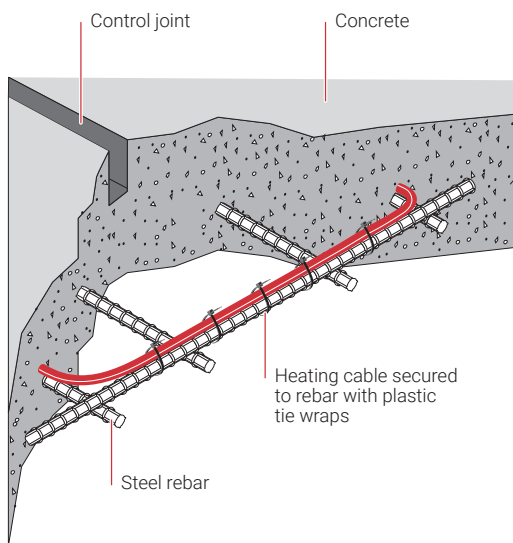

Figure 16: Method of crossing control joints
4. Lay out the heating cable in a serpentine pattern, at the predetermined spacing as specified in the design requirements, to uniformly cover the area to be heated (see Section 2.10). For single pour installations, fasten the cable to the reinforcement (or metal lath) with plastic tie wraps at 30 in (76 cm) intervals. For two-pour installations, use the tabs on the prepunched strapping to secure the cable at the predetermined spacing. Stay at least 4 in (10 cm) from edges and outer walls. Refer to Figure 16 if crossing control joints.